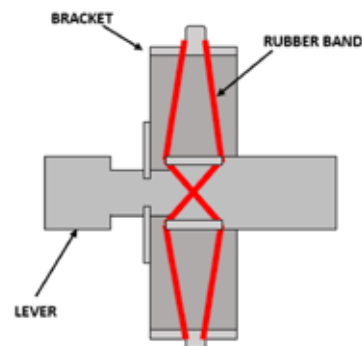
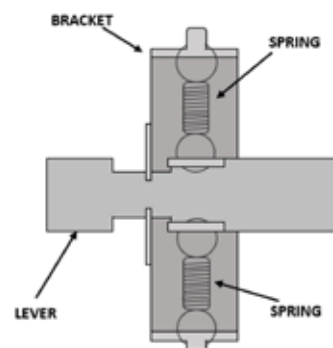

FIGURE 1
FIGURE 2
**A** new contributor, Bruk Bannister, recommends first identifying the Lionel part number for the rubber band as 610-9819-020. Unfortunately, that part number no longer comes up on the Lionel website, which means it's not being made. A replacement is a no. 10-size rubber band. You'll have to route it as pictured in **Fig. 1**. Lionel also used .005" piano wire; just twist it as shown in **Fig. 1**.
You may want to upgrade to a spring setup, which Lionel uses on newer versions of the Poultry Dispatch Car. Bruk recommends using Lionel part No. 600-0342-118. It isn't the exact part used on the newer items, but it should get you a good result. For tips on installing it, check out **Fig. 2**. Be sure to make any needed adjustments, just as you would have to do if you opted for what's shown in **Fig. 1**.